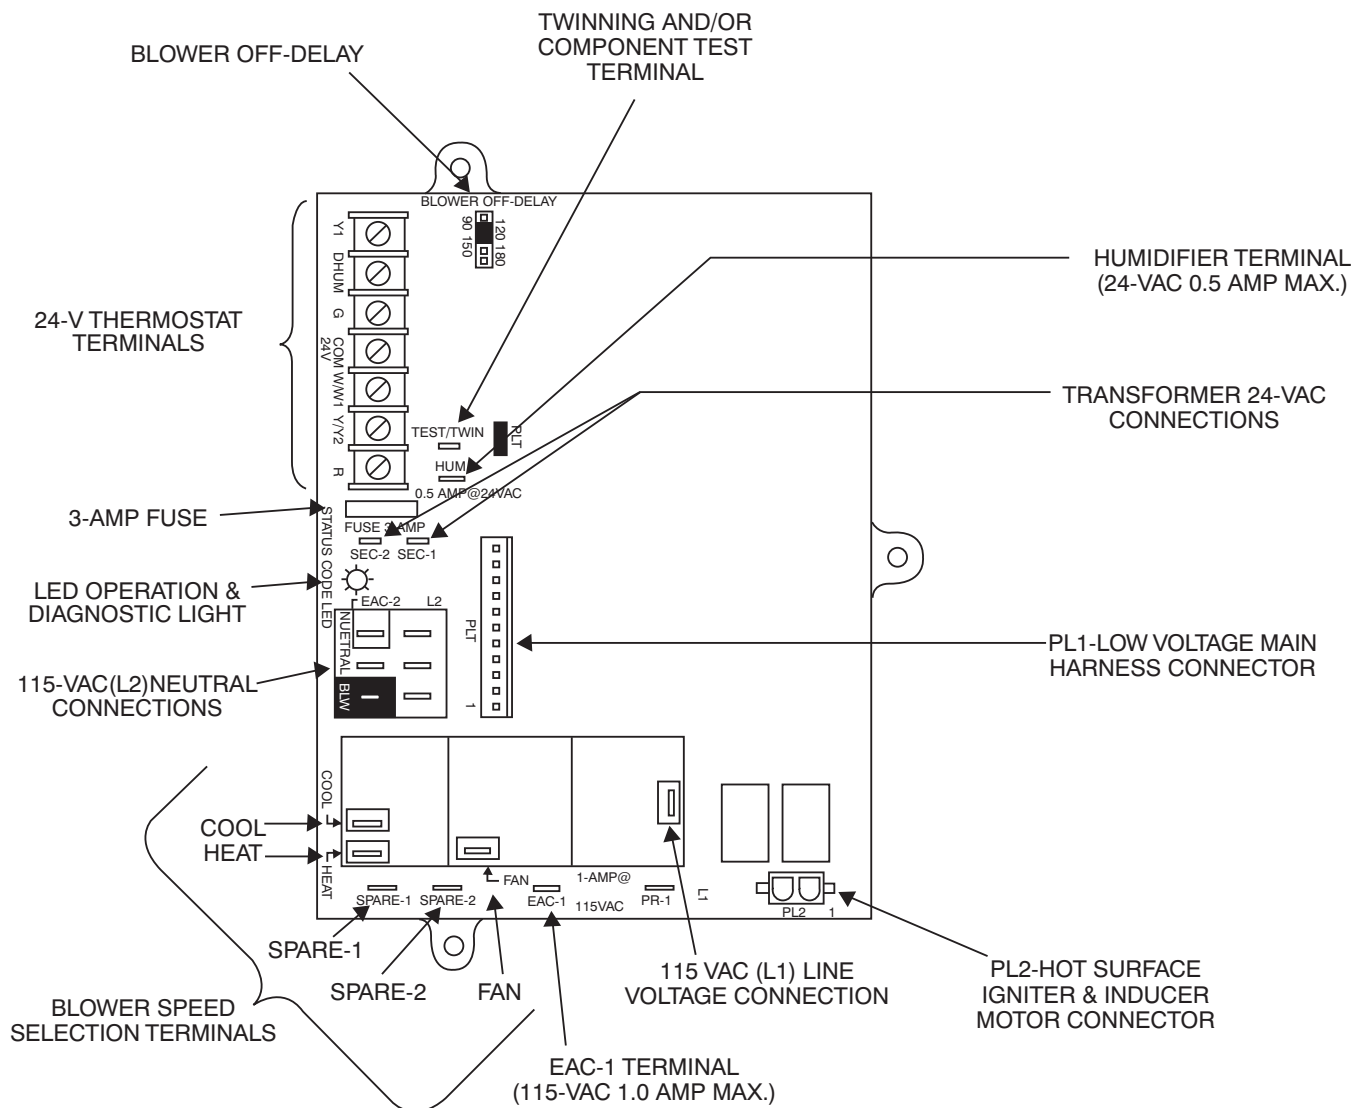

Fig. 18 - Single-Stage Furnace Control
2. Position blower off delay switches on controls in BOTH furnaces to SAME desired gas heat blower off delay. (See Fig. 18 and 19.) See furnace Installation, Start-Up, and Operating Instructions for further details.